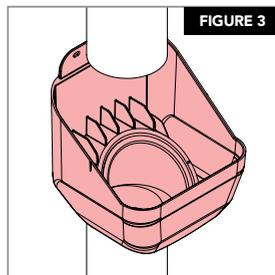

FIGURE 3
STEP 3 Insert the Leaf Eater Advanced™ by sliding it up over the cut section and then down into position. The Leaf Eater Advanced™ outlet should be slid firmly onto the bottom downspout until it can be pushed no further. (FIGURE 3)
STEP 4 Insert the Leaf Eater Advanced™ by sliding the rear outlet into the horizontal pipe. The back fixing plate must sit behind the top section of downspout. (FIGURE 3)